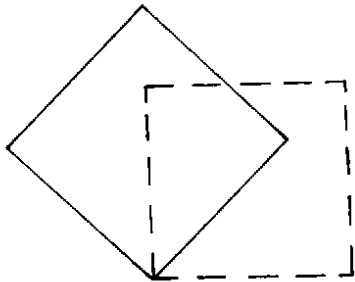

Figure 6-11. Box Rotated 45°
**Result** Draws a four sided box rotated 45° counterclockwise from previously plotted box (see Figure 6-11). The plot is shown in Detail D, Figure 6-22.